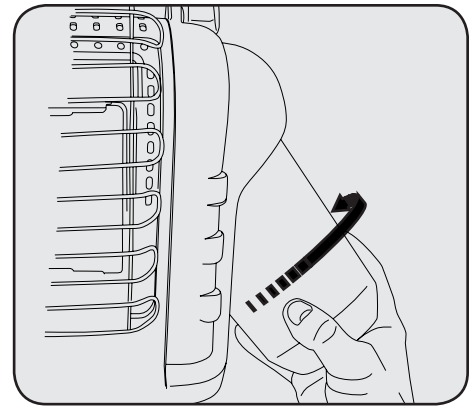

Figure 3
2. Screw 1 lb. disposable LP-gas supply cylinder clockwise (from bottom) into portable heater until hand-tight. See Figure 3. Do not use thread sealant on this connection.